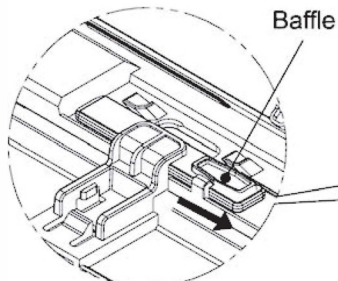

Fig. C.5.20
10) Pull the baffles as shown in Fig. C.5.20 Close the front shell as shown in Fig. C.5.21 . Then press the E position to fasten the front shell as shown in Fig. C.5.22